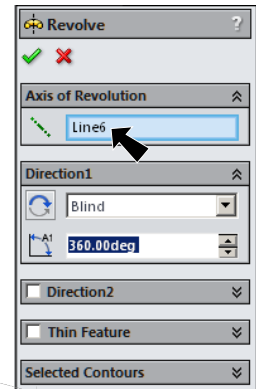

Fig. 5
- under Axis of Revolution  **construction line** is selected, **Fig. 5**